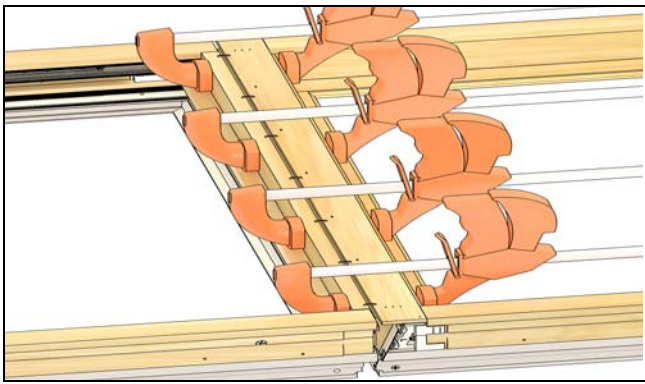

Figure 16
4. Lightly clamp units together on interior so that transom sill and operator head jamb are flush on the interior and even at the ends. Fasten interior wood members with 1/2" x 5/8" crown staples 4" (102) from each end and spaced every 3"-5" (76-127). See Figure 16.